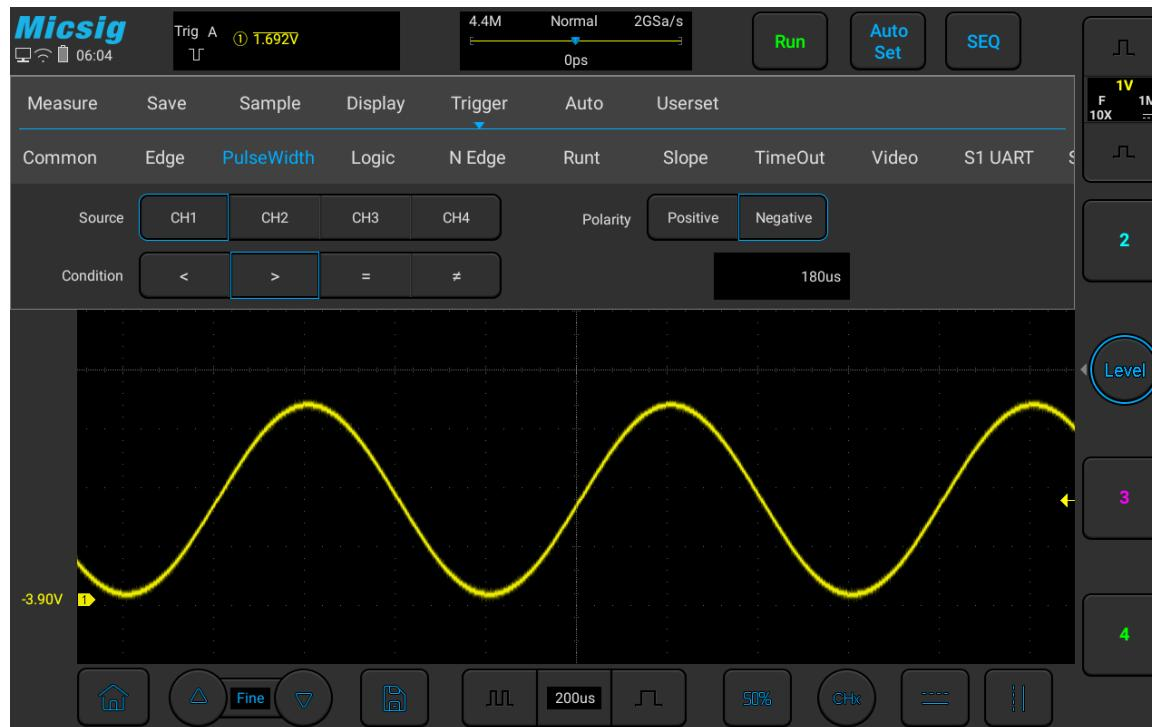

Figure 5-15 Negative Polarity Pulse Level Flip
lower than current trigger level (CH1 negative pulse indication icon \sqcap (① 1.00V)). When triggered on positive polarity pulse, if the restrictions are true, the trigger will happen on the high-to-low transition of the pulse; when triggered on negative polarity pulse, if the restrictions are true, the trigger will happen on the low-to-high transition. (Figure 5-15 Negative Pulse Level Flip)